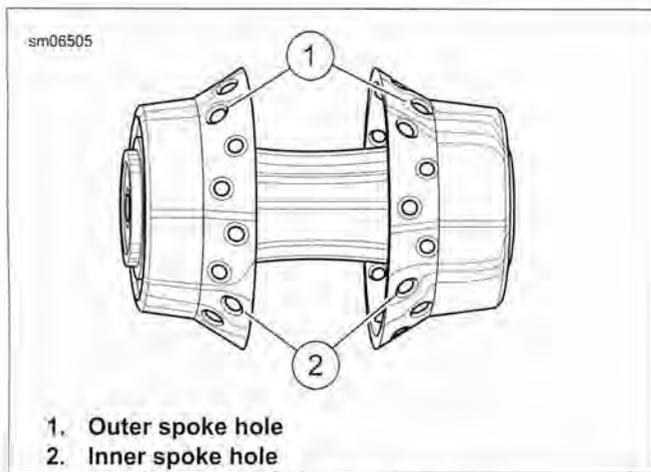

Figure 2-25. Angle Flange Hub
15. Rotate outer spokes (short head) counterclockwise and install in the remaining holes (4) in the rim.
- See Figure 2-25. The following procedure is valid for wheels that use an angle flange hub regardless of rim style or diameter.